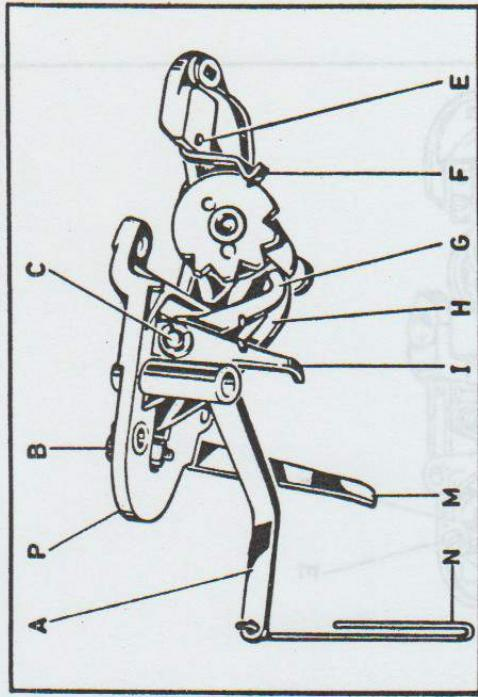
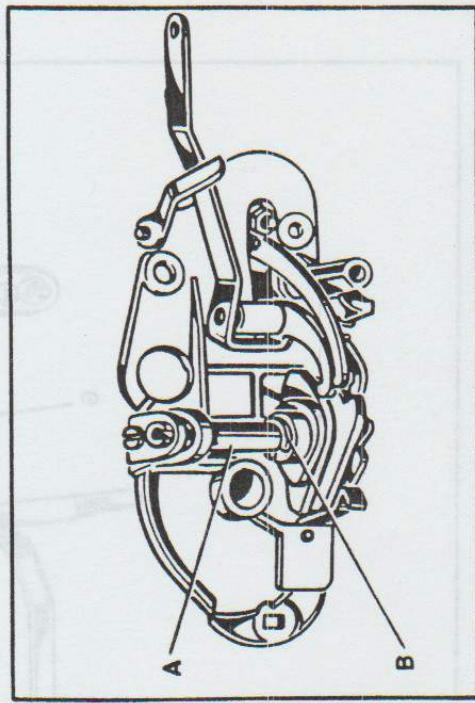

Fig. 44
Fig. 45
- remove the three screws that fasten plate P (fig. 44) to the arm;
- take off screw E (fig. 44) and remove spring F;
- remove benzing ring B (fig. 45), then take off the unit with pin A;
- loosen screw B (fig. 44);
- take off pin C (fig. 44) and remove the needle displacement contact finger G and lever A controlling the feed contact finger.
- Position lever A controlling the feed contact finger (fig. 44);
- insert pin A (fig. 45) and its cams into the special holes on the plate;
- position spring F (fig. 44);
- This being done, insert the adjusting grip in the special hole of pin A (fig. 45) and make sure, by turning it to the left and to the right, that spring F (fig. 44) exerts a sufficient pressure on the toothed cam so as to keep it motionless, while allowing it, on the other hand, to shift positions through a trigger-action movement.
- loosen screw E (fig. 44);
- loosen the adjusting screw between lever I and contact finger G (fig. 44): the spring, by stretching itself out, positions contact finger G and lever I;